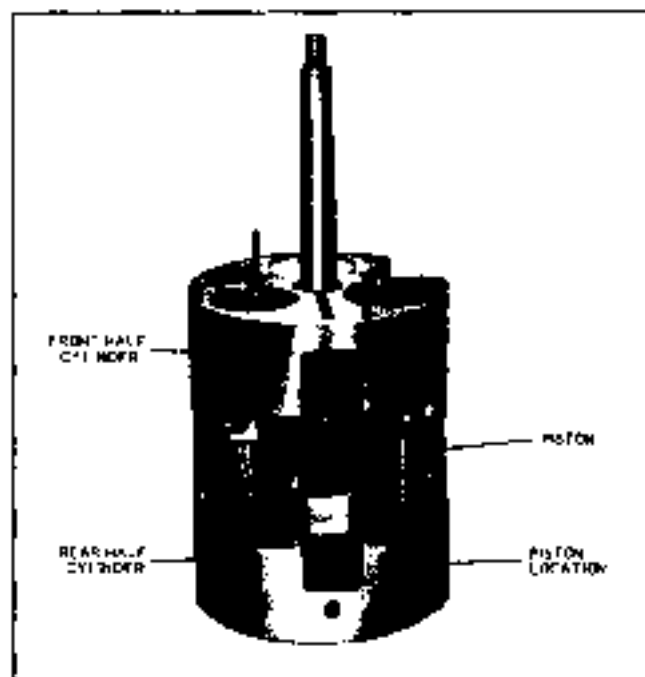

Fig. 1A-22 Pistons and Cylinder
1. Number pistons (1, 2 and 3) and their bores so parts can be replaced in their original locations (Fig. 1A-22).
2. Turn compressor shaft to position swash plate towards front of compressor to area of discharge crossover tube. Using J 9492, drive discharge crossover tube out of rear head assembly toward front of compressor or use a wooden block as shown in Fig. 1A-23. Use care so that discharge crossover tube is not damaged by swash plate.